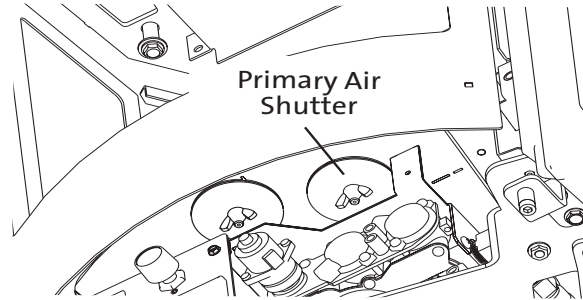

Figure 21.
3. Loosen the primary air shutter wingnut and push the stem all the way back. Fig. 21.